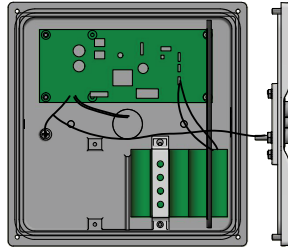

Figure 3
5. Secure back box to mounting surface with (2) screws (not supplied).
11. Light distribution can be changed by using a different lens. See page 3 and Figures 3, 4 and 5.